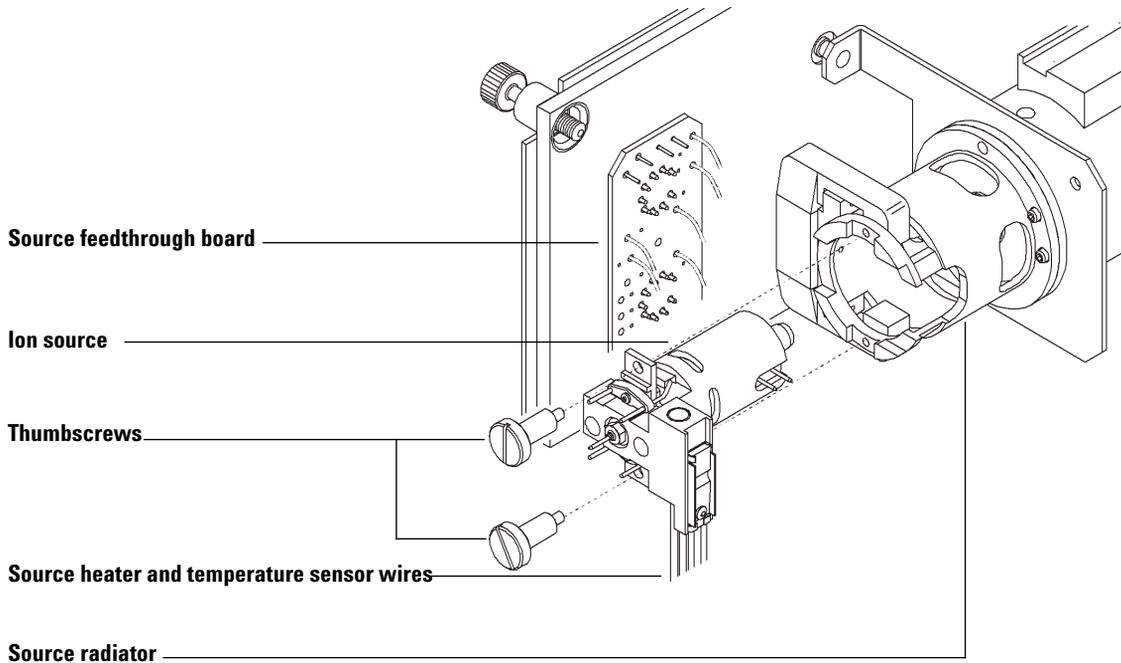

Figure 26 Removing the ion source
- 3 Disconnect the seven wires from the ion source. Do not bend the wires any more than necessary (Figure 26 and Table 22).